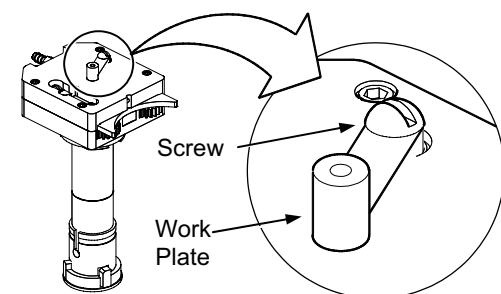

Figure 37 Inspecting the Work Plate and Screws
12. Ensure that the work plate screw is tight and free from excessive oxidation. See Figure 37. Clean the work plate with a fine-grit abrasive pad if necessary.